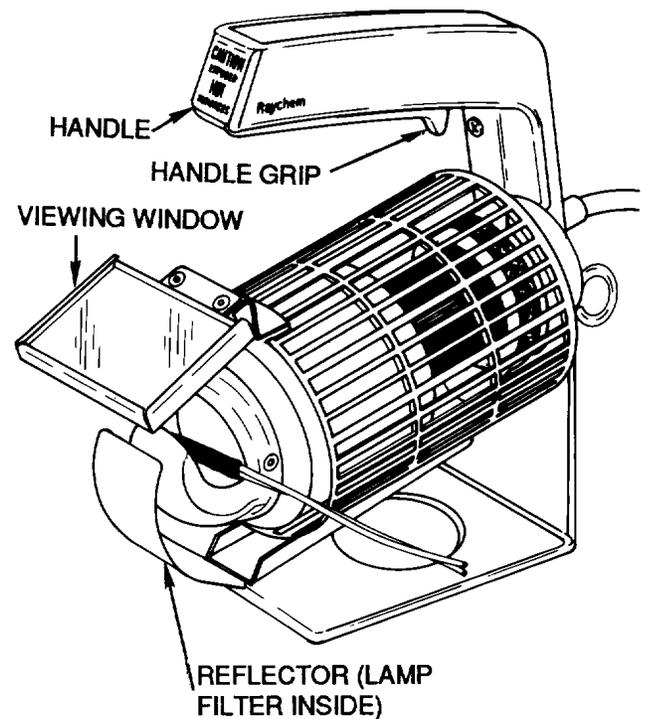

Figure 13. Radiant Heating Tool, IR-500
37. Radiant heating tool, IR-500 (Figure 13), is a portable lightweight electric heating tool designed for
38 . **PRE-OPERATION.** Prior to using radiant heating tool (Figure 13), proceed as follows:
40. **OPERATION.** To operate radiant heating tool (Figure 13), proceed as follows:
41. **POST-OPERATION.** After using radiant heating tool (Figure 13), proceed as follows: